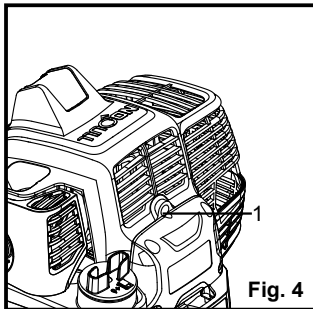

Fig. 4
- Remove the upper engine cover by removing the 4 screws with the provided hex wrench and screwdriver (Fig. 4 - 6)